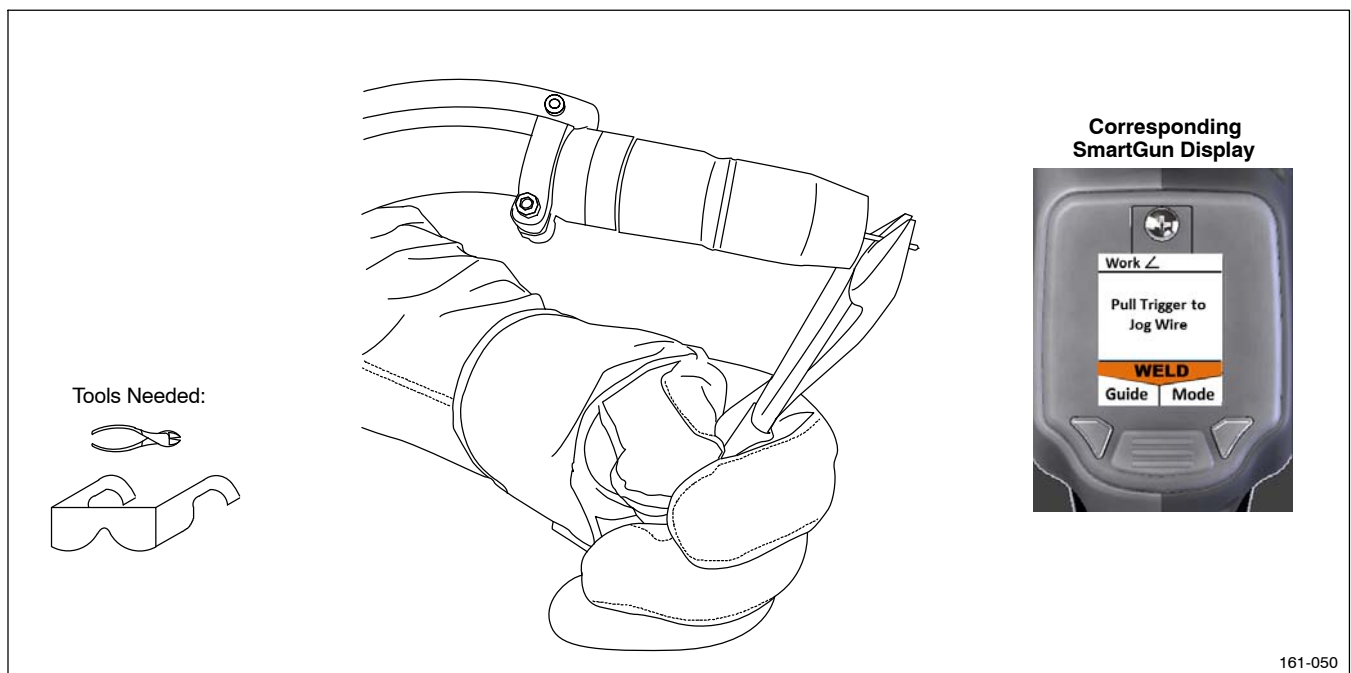

Figure 7-20. Cutting Wire To Specified Length
3. With SmartGun more than 3 in. (76 mm) from weld joint and SmartGun LEDs in view of camera, pull trigger to jog wire. Cut wire to length appropriate for the weld process (Figure 7-20).